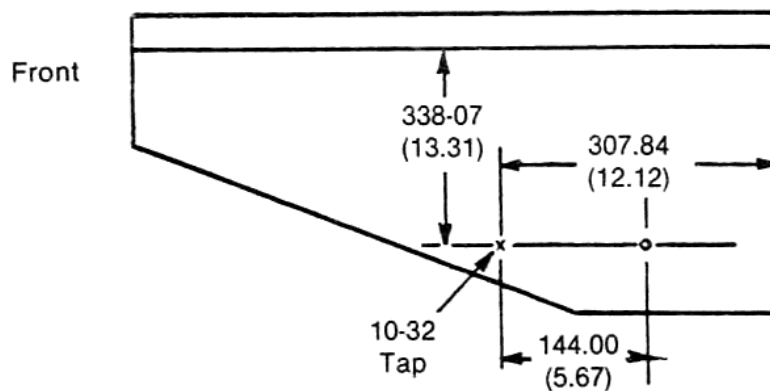

Figure 12-2 Hole Locations for Y-Axis Disconnect Cable Bracket
12.3 Y-AXIS DISCONNECT CABLE INSTALLATION (FOR USE WITH ROTARY TABLE)—Figures 12-2, 12-3.
2. Use Figure 12-2 to locate the holes to be drilled for the bracket. The dimensions are approximate.